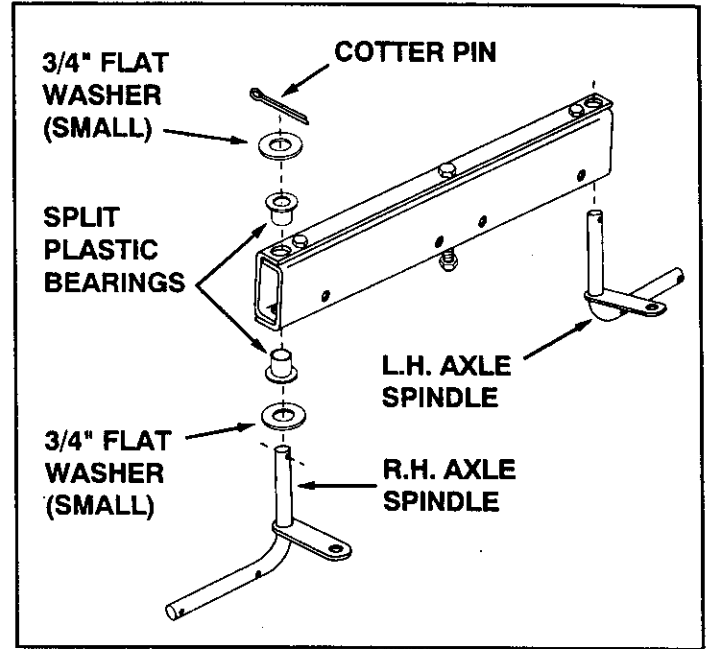

FIGURE 7
- Assemble the R.H. axle spindle to the front axle channels using two split plastic bearings, two small 3/4" flat washers and a cotter pin as shown in figure 7. Repeat for L.H. axle spindle.